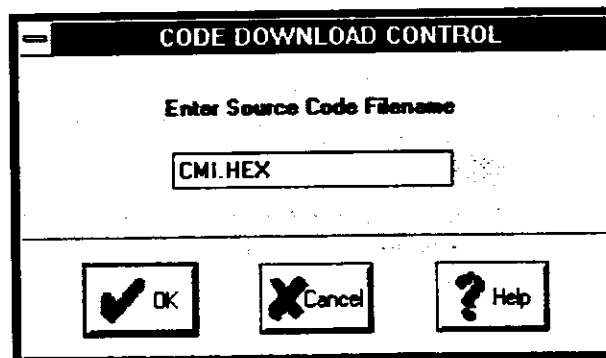

Figure 4-1. CMI Source Code Filename in CODE DOWNLOAD CONTROL Dialog
- h. In the box below *Enter Source Code filename*, type in the name of the file to be downloaded: CMI.HEX (see Figure 4-1). Click on **OK**.